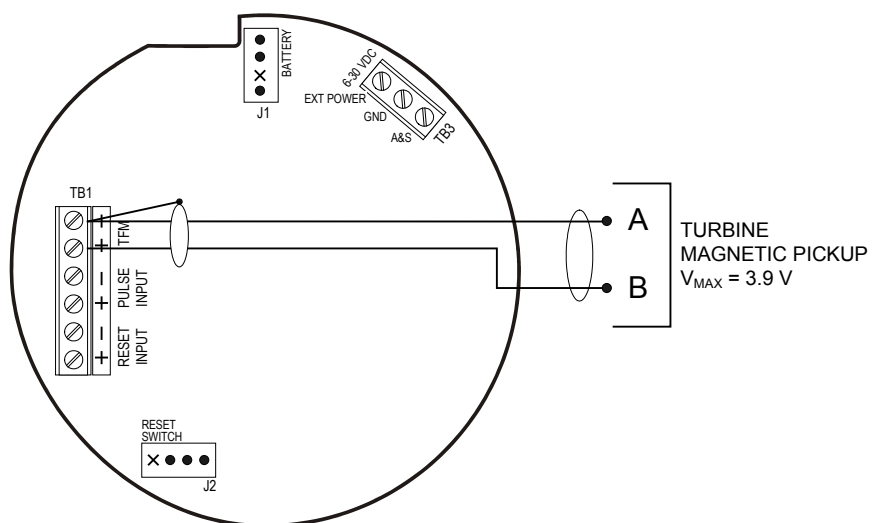
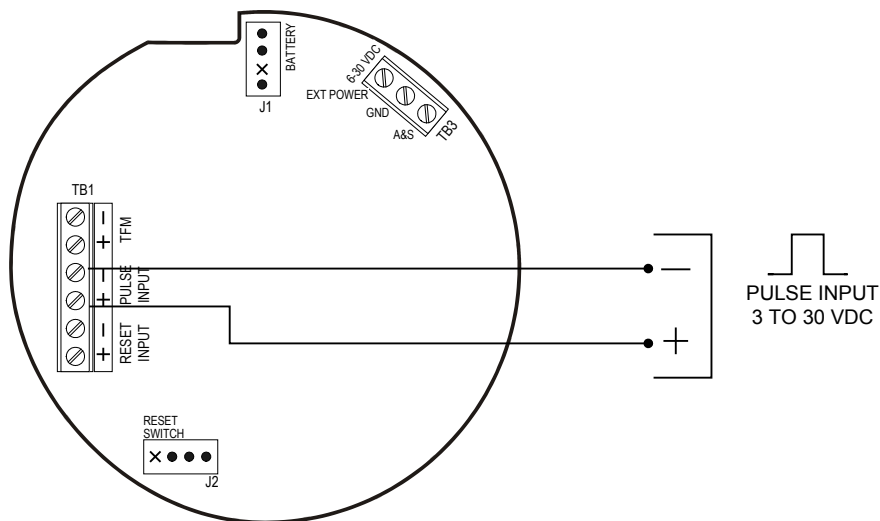

Figure 2.9—Flowmeter input wiring
Figure 2.10—Pulse input wiring
6. Connect the flowmeter or pulse input wiring to terminal block TB1. See Figure 2.9, page 28, and Figure 2.10, page 28.